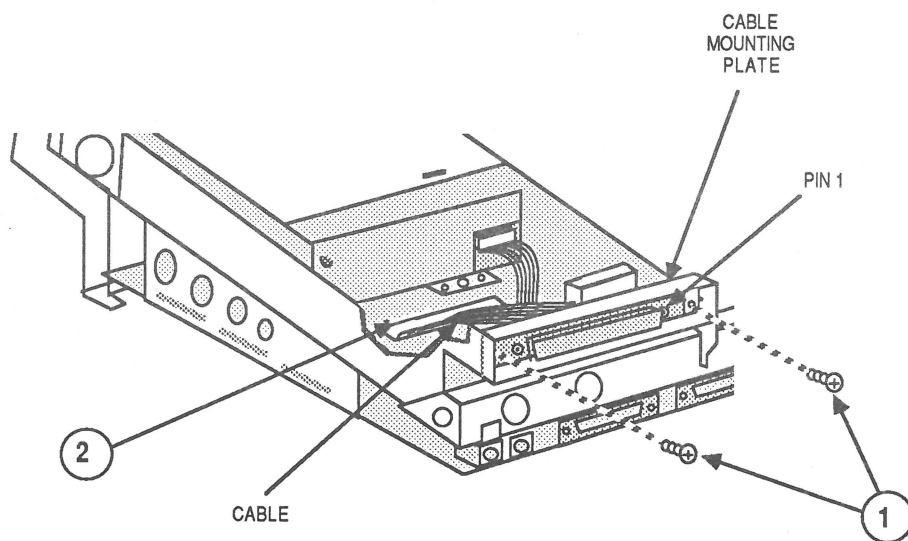

FIGURE 8
6. Stand the Macintosh SE upright so that the back is toward you. Remove the two Phillips screws (Figure 8, #1) that secure the cable mounting plate.
7. Pull the cable through the rectangular hole in the chassis bottom (Figure 8, #2) and out of the computer.
- IPL.17 Shipping Fixture, 800K/1.4 MB Drives (Figure 8)